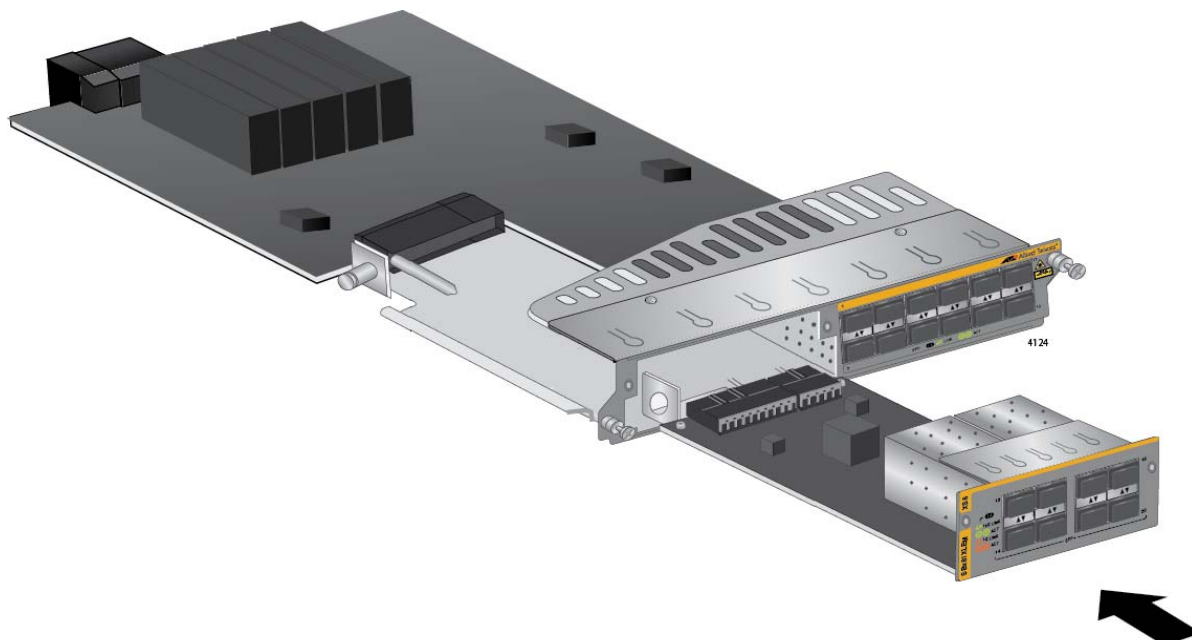

Figure 82. Sliding the Expansion Module into the AT-SBx81XLEM Line Card
- Carefully align the expansion module in the slot, as shown in Figure 82, and slide it into the line card.